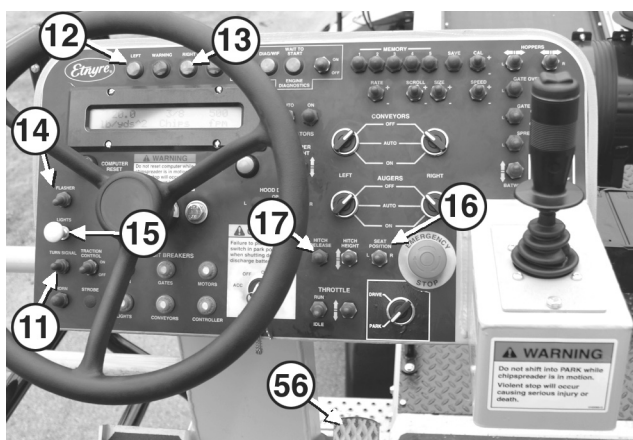

Figure 4. Control Panel
11, 12, 13. Turn Signal Selector and Indicators. (Figure 4)
14. Hazard Flasher Switch (Figure 4)
15. Headlight Switch. (Figure 4)
16. Seat Shift Switch. (Figure 4) (Optional)
17. Hitch Release Pushbutton. (Figure 4)